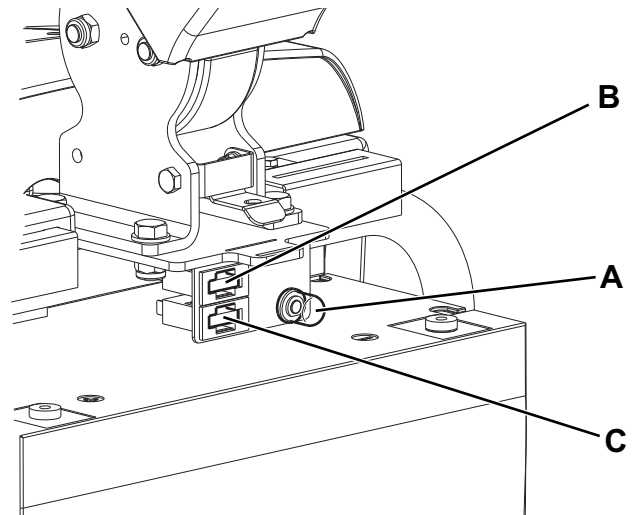

Figure 4
2. Turn the knob (32) to “0” and disconnect the battery.
3. Open the cover (4) and check one of the following fuses for deactivation or integrity:
- (A, Fig 4): F1 (30 A) circuit breaker, brush motor.
- (B): F3 (5 A) blade fuse, accessories.
- (C): F2 (30 A) blade fuse, vacuum system motor.